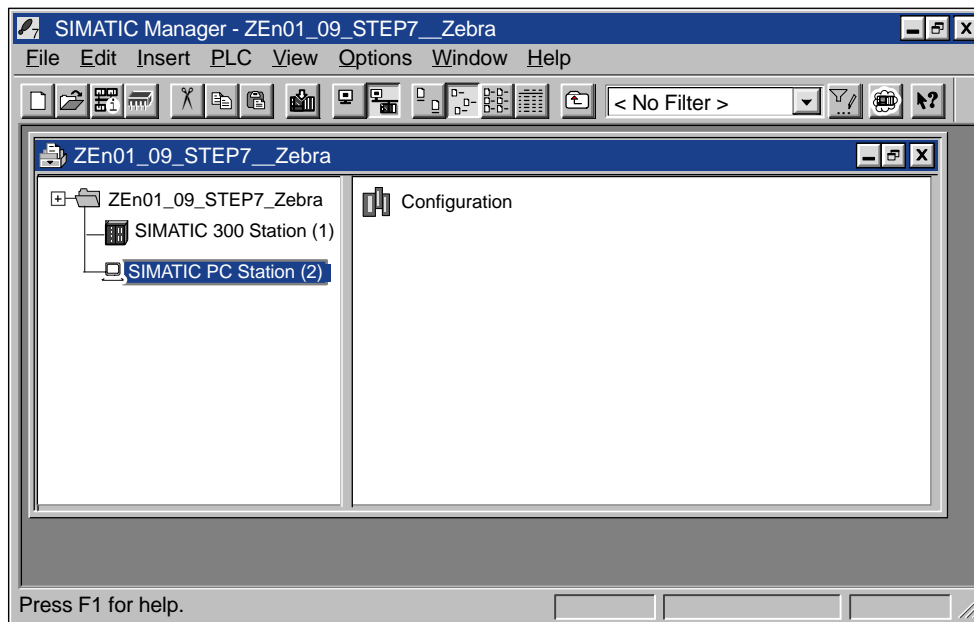

Figure 4-5 Configuring the PC Station in the Sample Project
2. Double-click on the Hardware object to open the configuration tool of the STEP 7 software. (See Figure 4-5.)